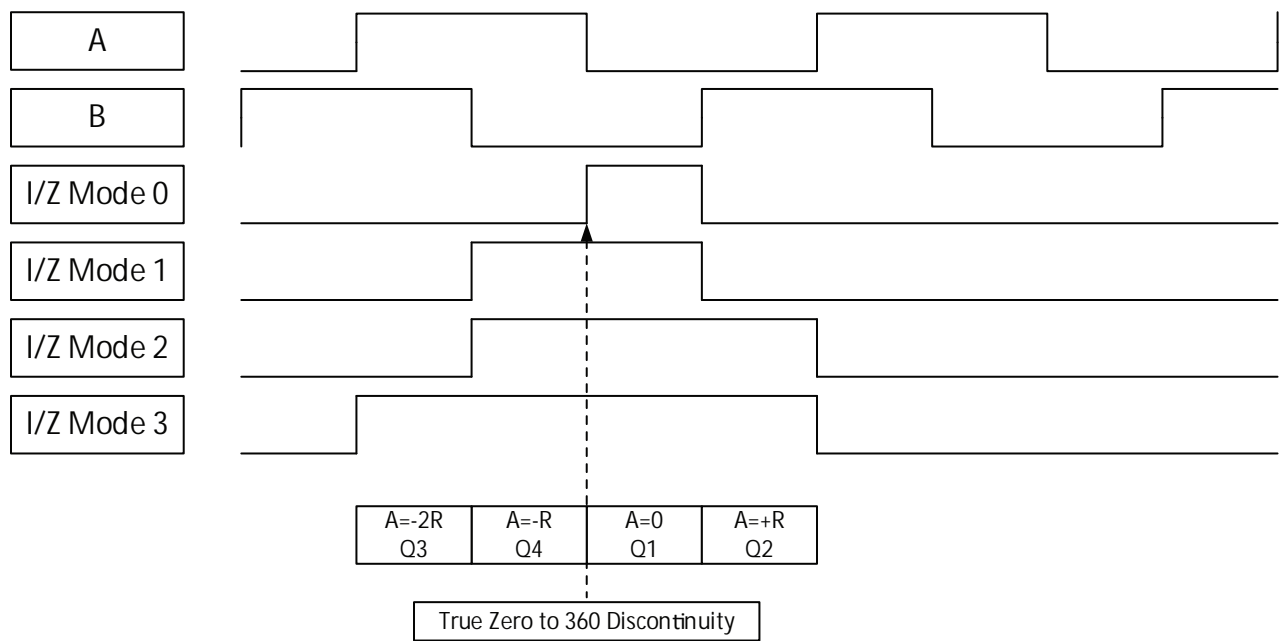

Figure 9: Index Pulse
The index pulse I (or Z in some descriptions) marks the absolute zero (0) position of the encoder. Under rotation, this allows the receiver to synchronize to a known mechanical/magnetic position, and then use the incremental A/B signals to keep track of the absolute position. To support a range of ABI receivers, the I pulse has four widths, defined in Figure 9.